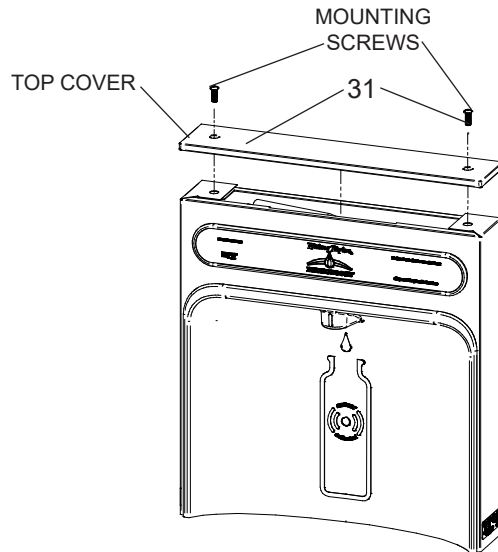

Fig. 8
- 1) **Remove two (2) mounting screws** with 5/32" Allen wrench holding top cover to Bottle Filler (See Fig. 8). Remove top cover. Note do not discard mounting screws, they will be needed to reinstall top cover.
- 9) **Once Bottle Filler is installed on wall plate tabs,** water line and power cord are installed properly, push top of Bottle Filler toward wall and line up top cover two (2) holes.
- 10) **Reinstall Top Cover on Bottle Filler** (See Fig. 8) with two mounting screws from step 1 above. Caution, do not over tighten screws.